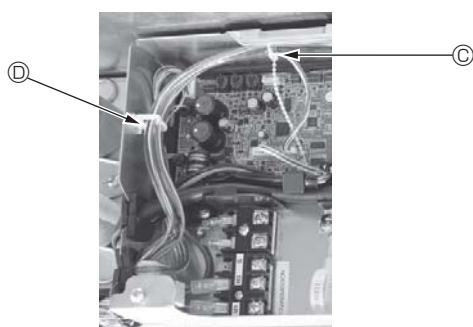

Fig. 5-15
- Place the excess portions of the i-See sensor and signal receiver junction wires in the electric component box in the wire clip as shown in the diagram, and secure the wires together with the fastener. (Fig. 5-15)